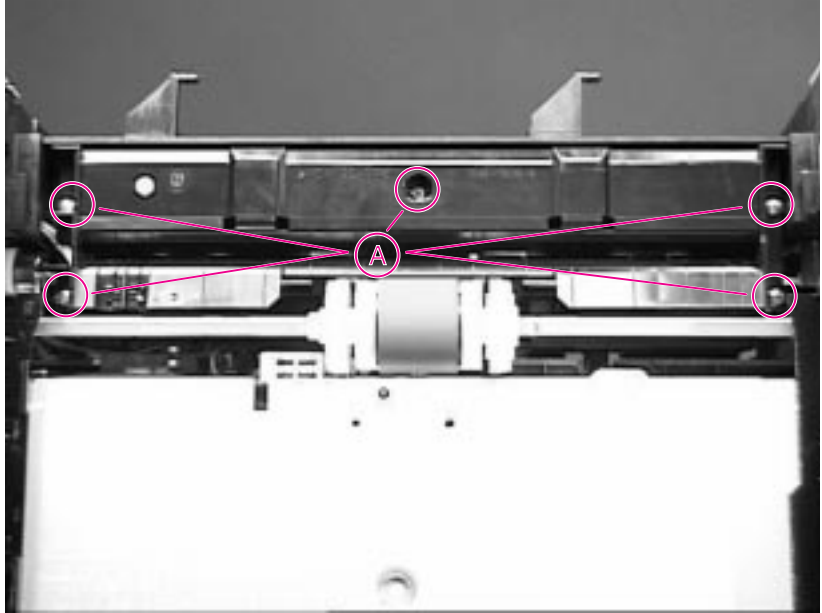

Figure 6-37 Paper Feed Roller Assembly (bottom view of printer)
- 5 Remove the five self-tapping screws that hold the Paper Feed Roller Assembly to the chassis. They are located on the bottom of the printer. See Figure 6-37.